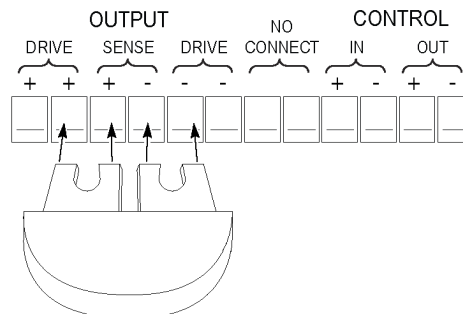

Figure 1 Rear Panel Shorting Clips
1. Install the shorting clip (included in accessories) on the rear panel terminal strip as shown in Figure 1 below. You may also use jumpers between DRIVE+ and SENSE+, and between DRIVE- and SENSE-.